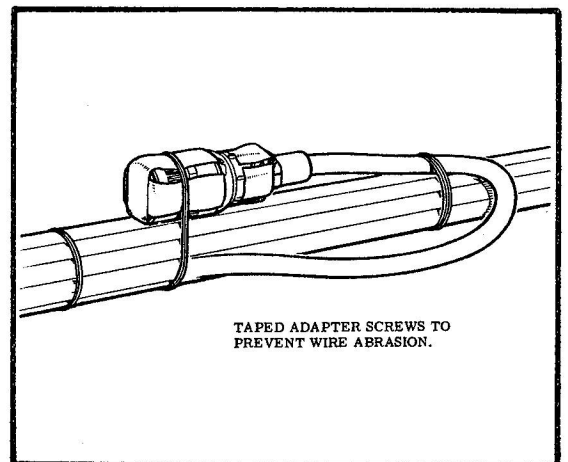

Figure 17 Plug Tying
- (c) Plugs must be either tied to cable runs or clamped to structure members as shown in Figure 17. Special care should be taken to ensure that fluid can not run down into the wire end of the plug. Use drip loops as required.